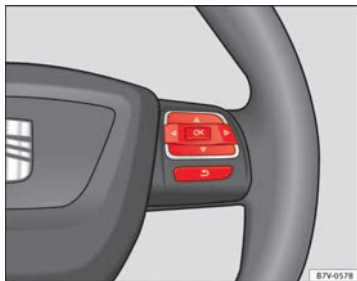

Fig. 38 Right side of multifunction steering wheel: Buttons to access the instrument panel menu
- If a message or vehicle symbol is displayed, press **OK** (⇒ Fig. 37 (A) or ⇒ Fig. 38).